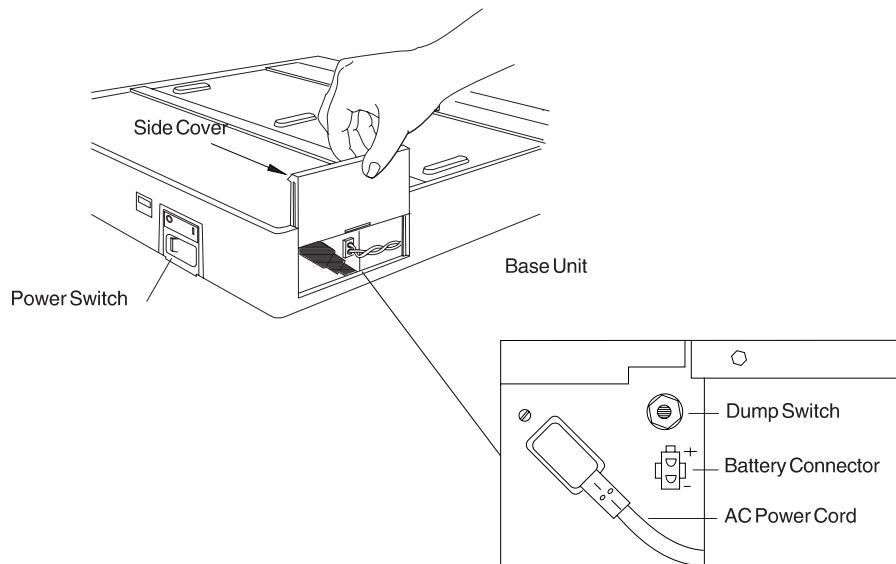

Figure 3. Location of terminal dump switch on 4683 Mod1 terminals
- Press the Mod1 terminal dump switch shown in Figure 3 on page 368.